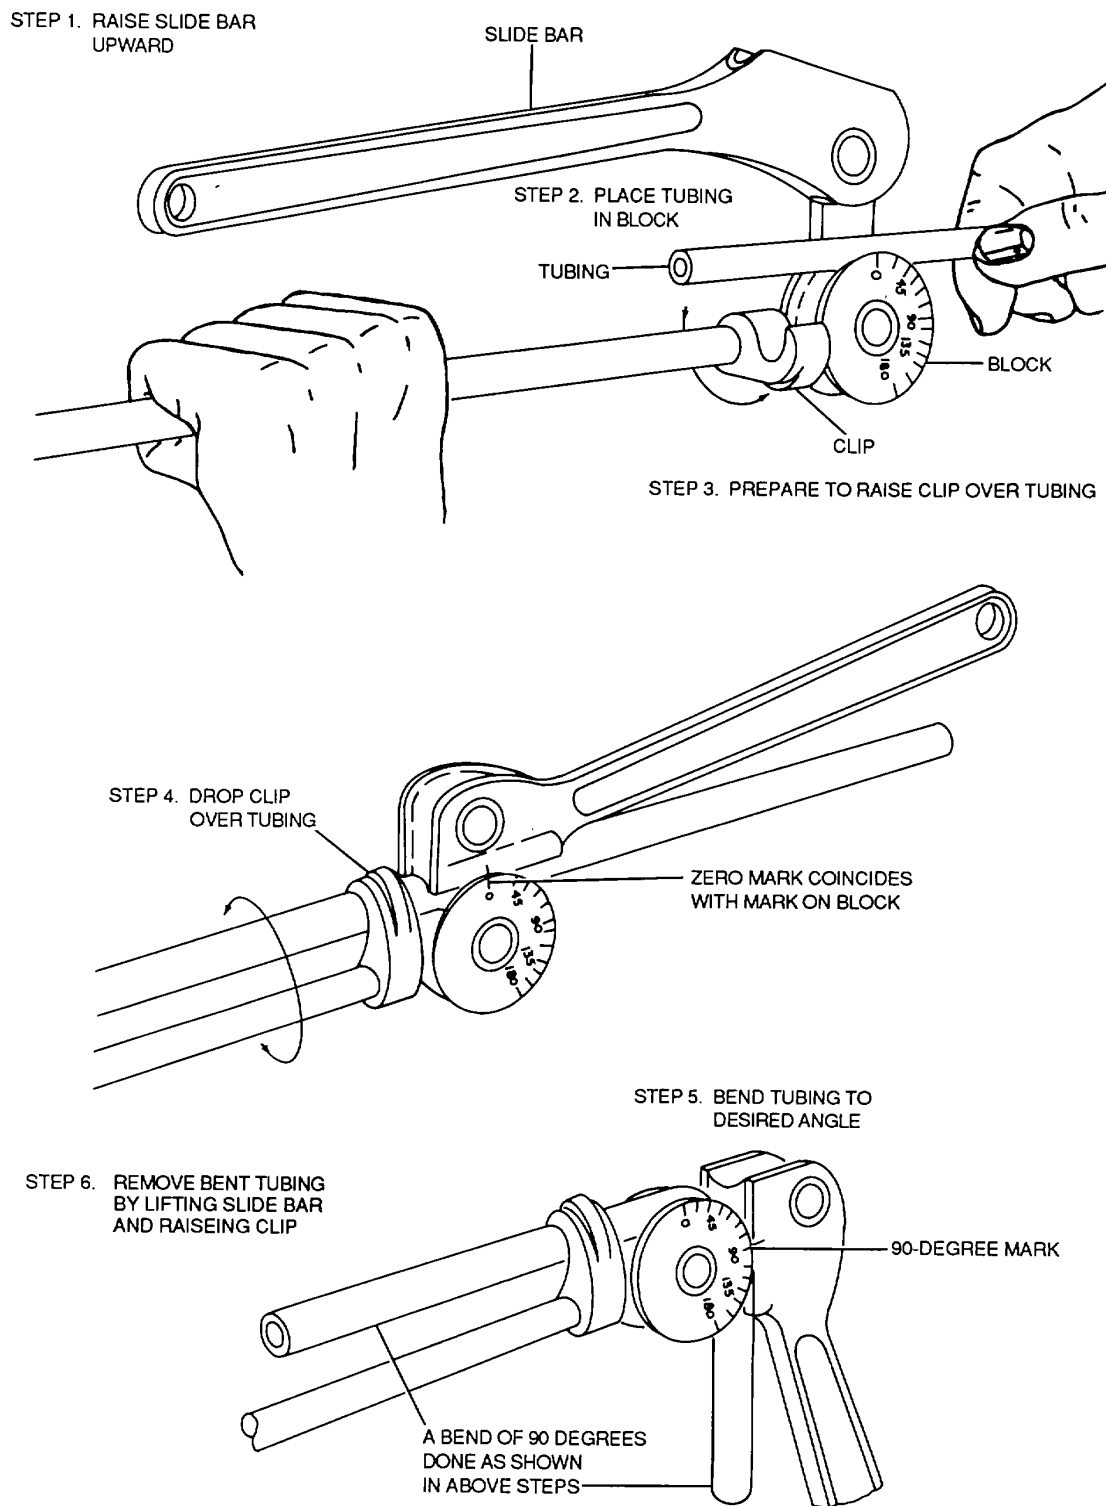

Figure 4-118. Bending Tube
b. Use. The following steps provide procedures for bending tubing (see figure 4-118):
(1) Raise slide bar upward and insert the tubing to be bent.
(2) Raise the locking clip and lock the tubing into place.
(3) Lower the slide bar until it rests on the tubing. The zero mark on the slide bar should match up with the zero mark on the block.